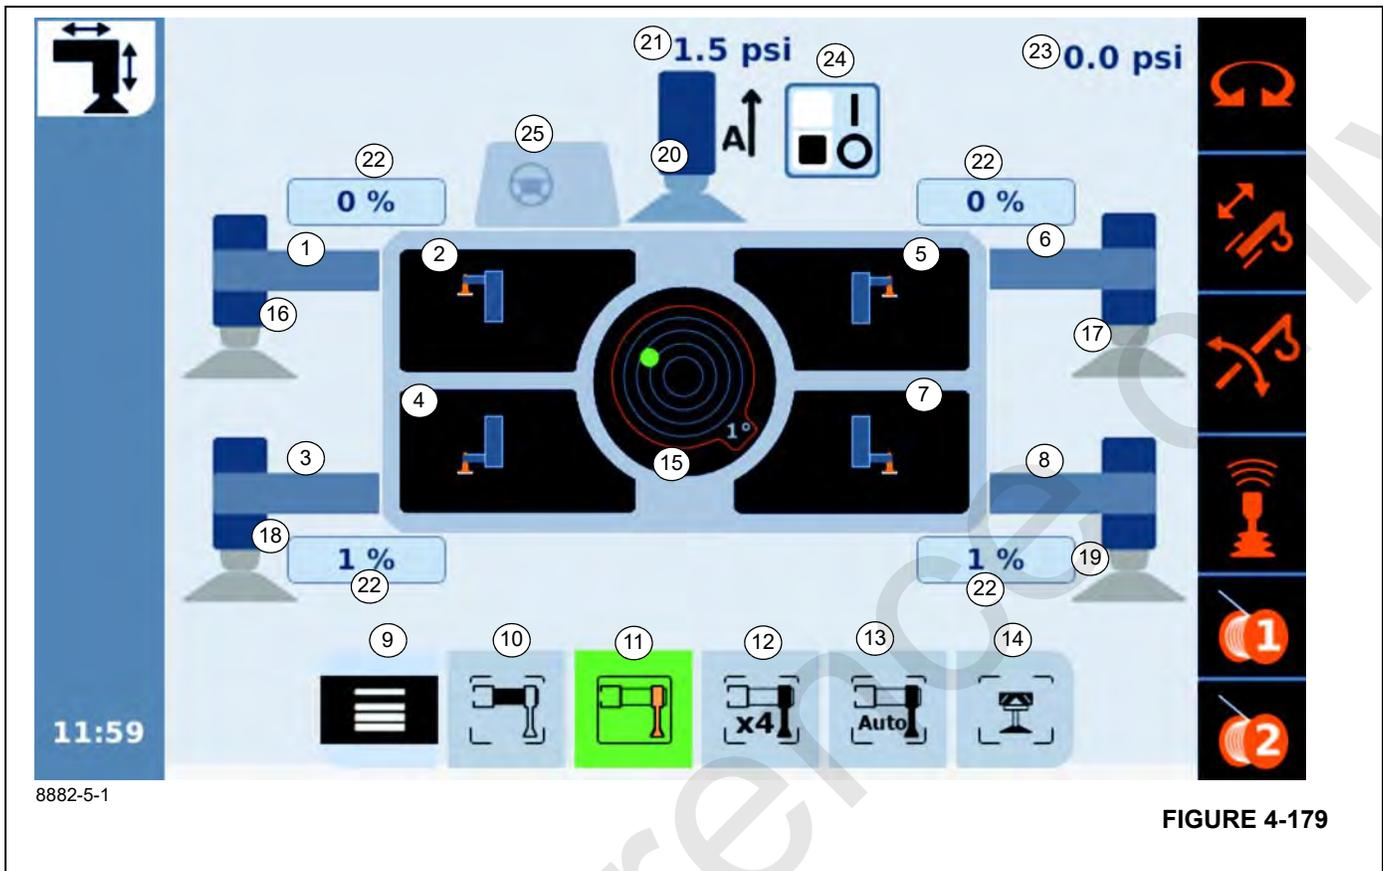

FIGURE 4-179
The Outrigger Extend/Retract function screen (Figure 4-179) allows the operator to set the outriggers and level the crane using either a manual or semi-automatic mode. The outriggers are also retracted and stowed from this function screen.
The steering wheel symbol (25), (Figure 4-179) shown on the Outrigger Extend/Retract function screen corresponds to the front of the crane. The terms left and right correspond to the operator's left and right sides when looking forward over the front of the crane.
The Outrigger Extend/Retract function screen (Figure 4-179) is used to deploy and monitor the outriggers.